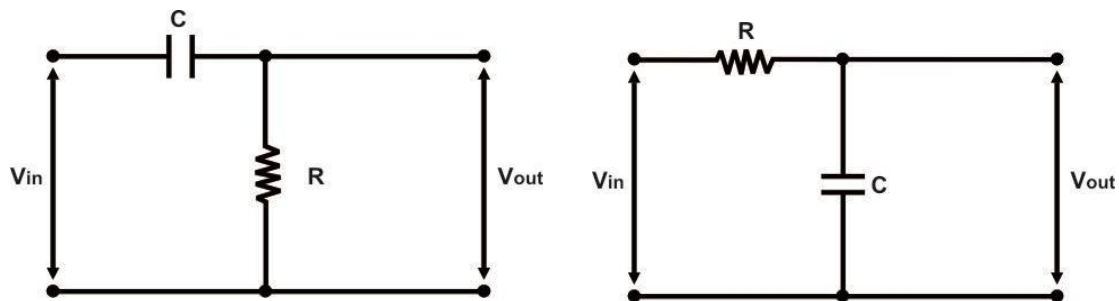

Fig. 4: (a): Passive High Pass Filter and (b): Passive Low Pass Filter
The simplest type of filter is a resistance-capacitance (RC) filter. The pass filter and low pass RC filters are as shown in Fig. 4. The analysis of these filters becomes easier if we think of them as a.c. potential dividers. The reactance of the capacitor is frequency dependent with a high value at low frequencies and a low value at high frequencies.